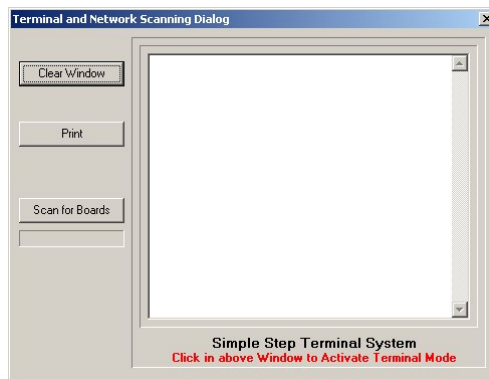

Figure 11 Terminal and Network Scanning Dialog Box
- b. Click inside the *Simple Step Terminal System* window (Figure 11) and type the letter 'A'.
3. Select **File > Terminal and Network Scanning** from the SSWin menu bar. The *Terminal and Network Scanning Dialog* box is displayed (Figure 11).